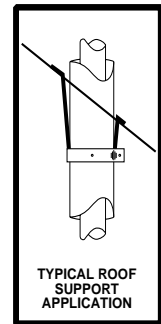

Fig. 59
8. Install appropriate pipe sections until above the flashing. (See Fig. 59 for #'s 7, 8 and 9).